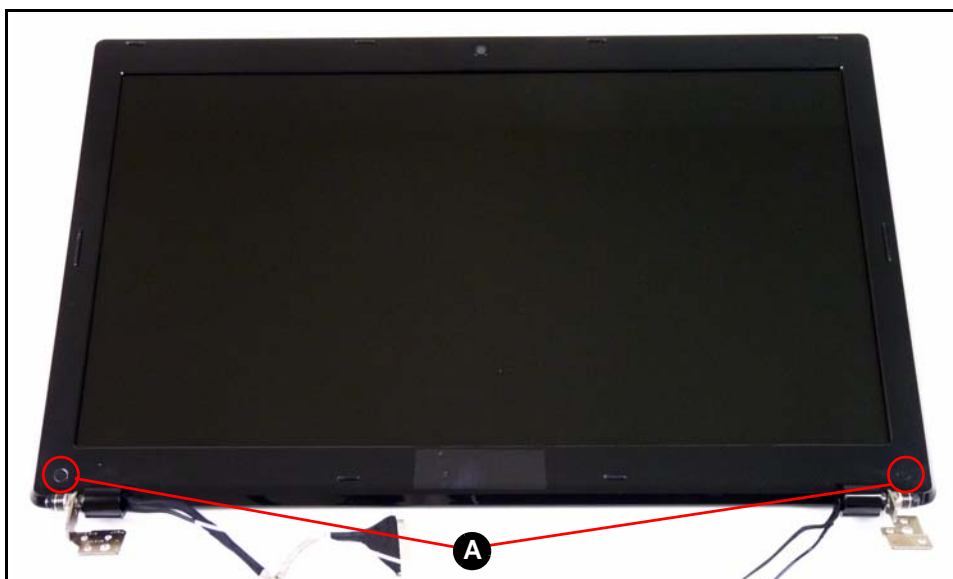

Figure 3-40. LCD Bezel
1. Remove two screw caps. (Figure 3-40)
2. Remove two (2) screws (A) from the LCD module. (Figure 3-40)
1. Put LCD bezel on the LCD module. (Figure 3-40)
3. Install and secure two (2) screws (A) to the LCD bezel. (Figure 3-40)